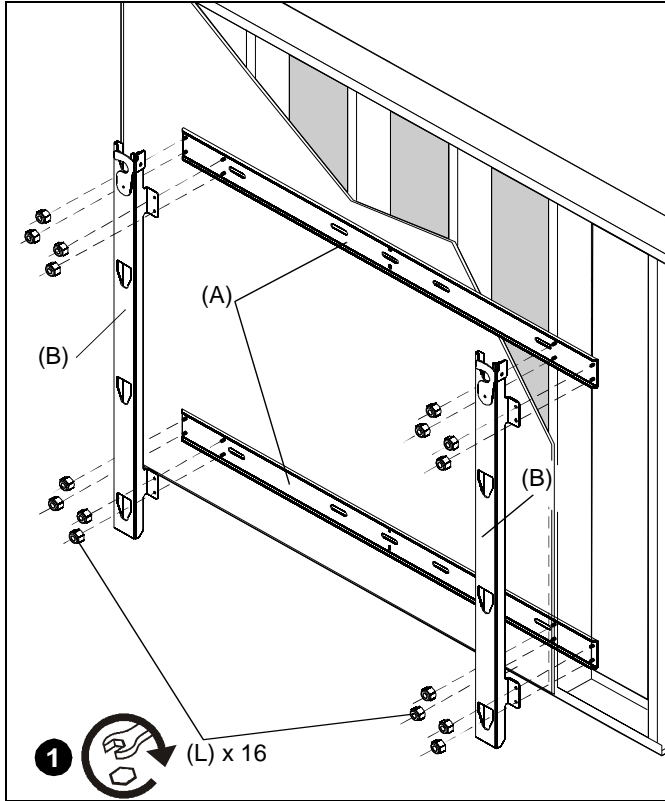

Figure 4
10. Attach two vertical brackets (B) to two horizontal brackets (A) using sixteen 5/16" nylon lock nuts (L). (See Figure 4)